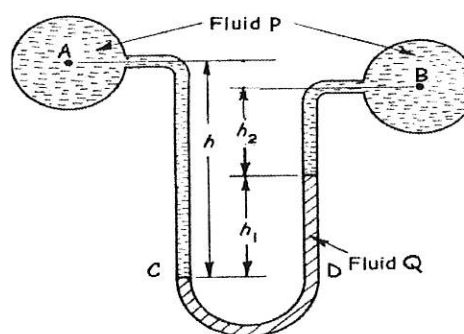

Figure Q2(b)
- b) A U tube manometer measures the pressure difference between two points A and B in a liquid P (refer to **Figure Q2(b)**). The U tube contains mercury. Calculate the difference in pressure if $h = 2.0m$, $h_2 = 0.35m$ and $h_1 = 0.5m$. The liquid at A and B is oil ($s_{oil} = 0.85$) and the specific gravity of mercury, $s_{Hg} = 13.6$.